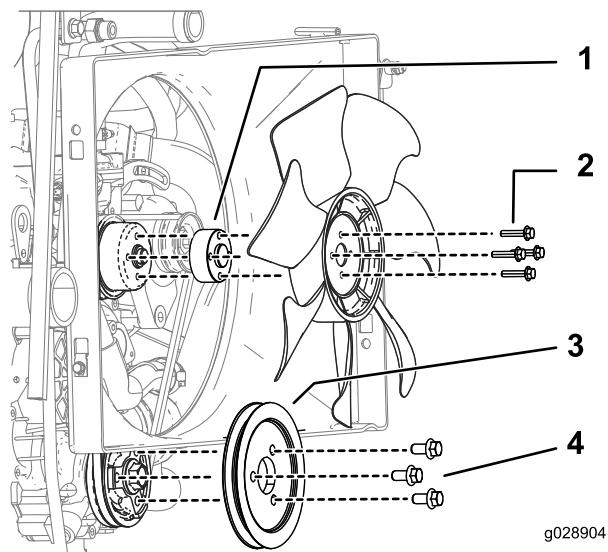

Figure 4
1. Install the fan spacer and pulley as shown in Figure 4.